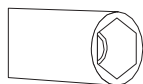

Figure 3
1. Use a screwdriver to remove and install the nozzle as in Figure 3.